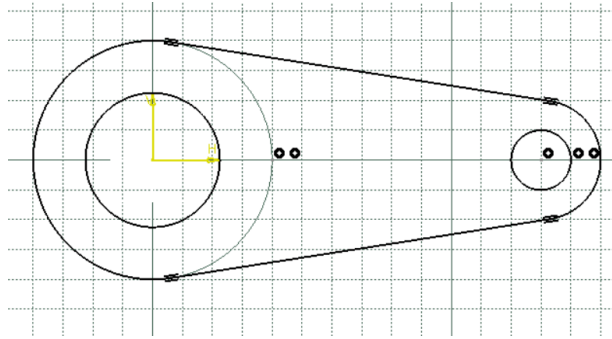

Figure 3-68 Final sketch after creating the outer and inner loops
5. Move the cursor horizontally toward the right and click when the coordinate values above the cursor are 140,0. The final sketch after creating the outer and inner loops is shown in Figure 3-68. Press the ESC key to exit the selection set and the **Circle** tool.